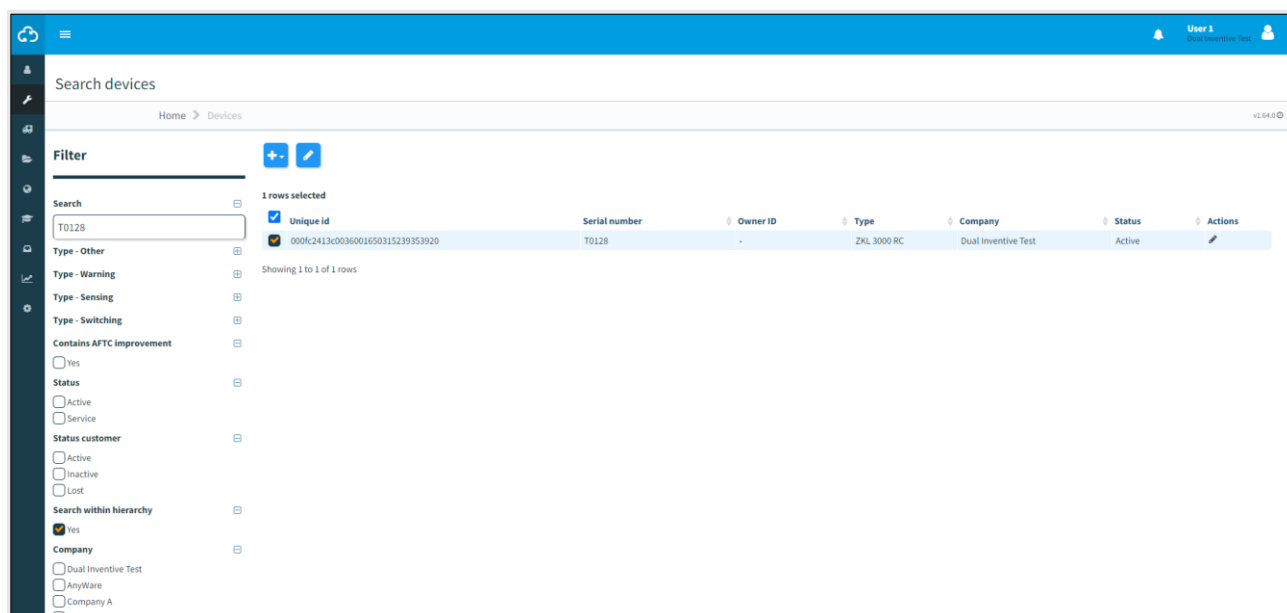

Figure 87 Dashboard - asset management
- Step 1 - Devices (Figure 87);
After saving the template, it can be used in MTinfo 3000 projects. It is always possible the edit or delete templates (see Figure 87).